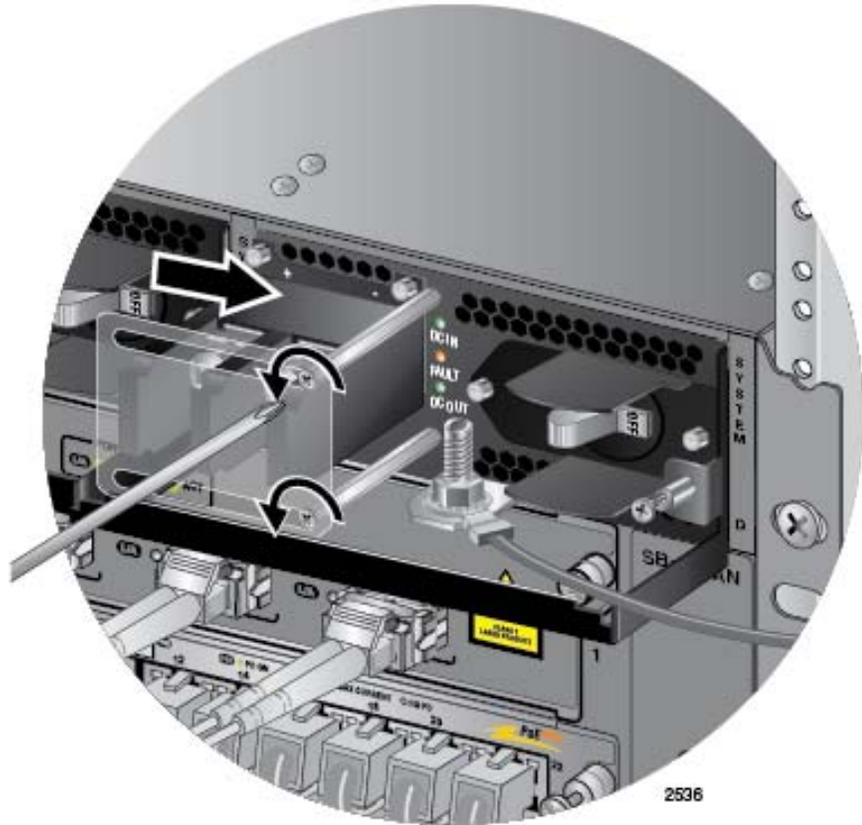

Figure 123. Opening the Plastic Cover
4. Use a #1 Phillips-head screwdriver to loosen the two screws on the plastic cover over the positive and negative terminals on the power supply and slide the cover to the right, as shown in Figure 123 on page 184. You may need to lift the locking handle slightly to access the bottom screw.
3. Use a #1 Phillips-head screwdriver to loosen the two screws on the plastic cover over the positive and negative terminals on the power supply and slide the cover to the right, as shown in Figure 123 on page 184. You may need to lift the locking handle slightly to access the bottom screw.